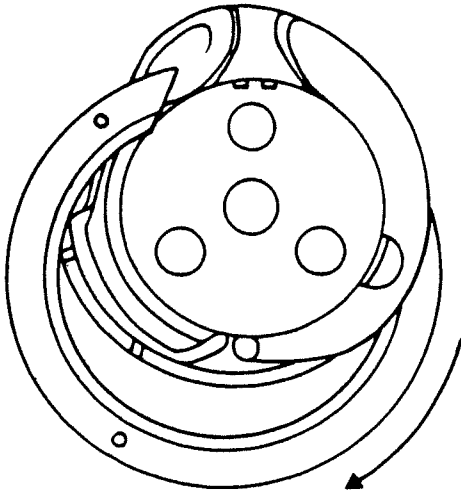

Fig. 37b
- Turn the sewing hook gib to the left or to the right out of the bobbin case base (fig. 37b).